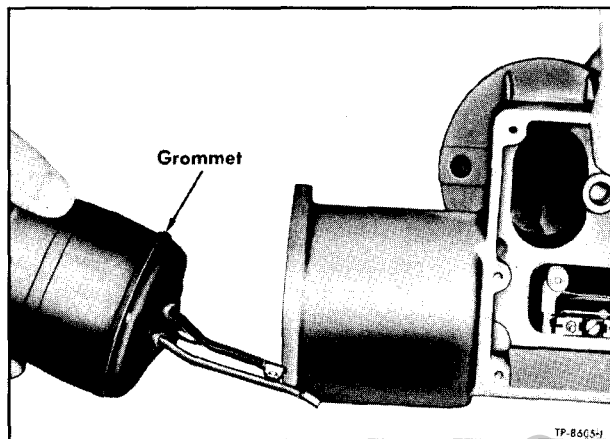

Figure 26—Removing Motor
9. Remove three screws and lock washers (1) which attach motor cover (4) to housing. Pull out motor (6) with cover (4) attached to motor (fig. 26), with two cover nuts (2). Remove grommet (7).
5. Remove three screws and lock washers (1) which attach motor cover (4) to housing. Pull out motor (6) with cover (4) attached to motor (fig. 26). with two cover nuts (2). Grommet (7) can then be removed.